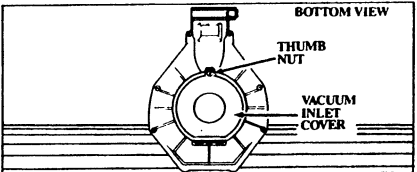

Figure 5
- Set the unit on a flat surface as shown in Figure 5, and unthread the Thumb Nut holding the Vacuum Inlet Cover closed.